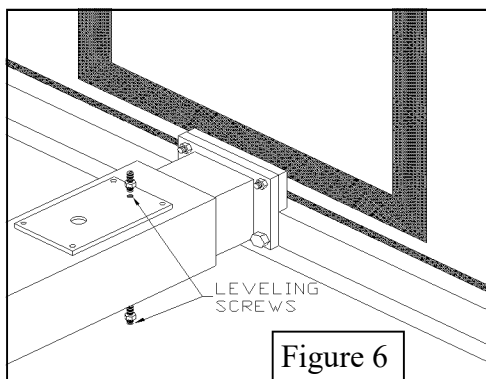

Figure 6
6. Level the *Backboard* (J) and the *Breakaway Goal* (L) from side to side and tighten all hardware. Using the leveling screws on the top and bottom of the extension arm level the *Backboard* (J) top to bottom. Tightening the top screw will raise the front of the *Breakaway Goal* (L) and tightening the bottom screw will lower the back of the *Breakaway Goal* (L). See Figure 6.